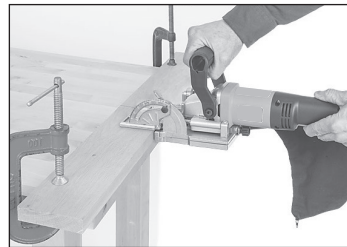

Fig 18. Biscuit joiner operation
3. With both hands holding tool, slowly push blade into workpiece, as shown in Figure 18, making sure joiner grooves remain aligned with layout line on workpiece, as described in Step 1.